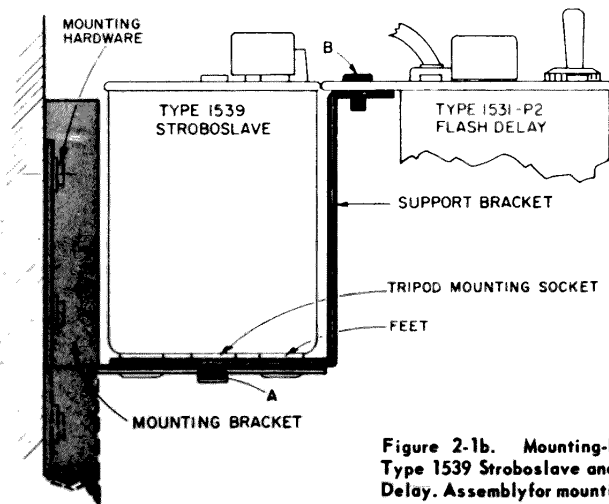

Figure 2-1b. Mounting-bracket assembly for
a. Nest the Stroboslave feet in the four 9/16" diameter holes in the bracket assembly as shown in Figure 2-1b, and tighten screw (A) securely. If the Flash Delay unit is not to be mounted with the Stroboslave, the bracket-assembly hardware and the support bracket may be omitted.
b. Mount the Flash Delay unit to the support bracket, using two screws (B) as shown.
To mount the instruments on a vertical surface, proceed as follows (see Figure 2-1b):
a. Omit the bracket-assembly hardware and assemble the Stroboslave, mounting bracket, and support bracket (as shown in Figure 2-1b), using screw (A).
b. Mount the Flash Delay unit to the support bracket using screws (B) as shown. If the Flash Delay is not to be used, omit the support bracket.
When mounting on a vertical surface, the position of the mounting bracket can be reversed (see dotted outline, Figure 2-1b).